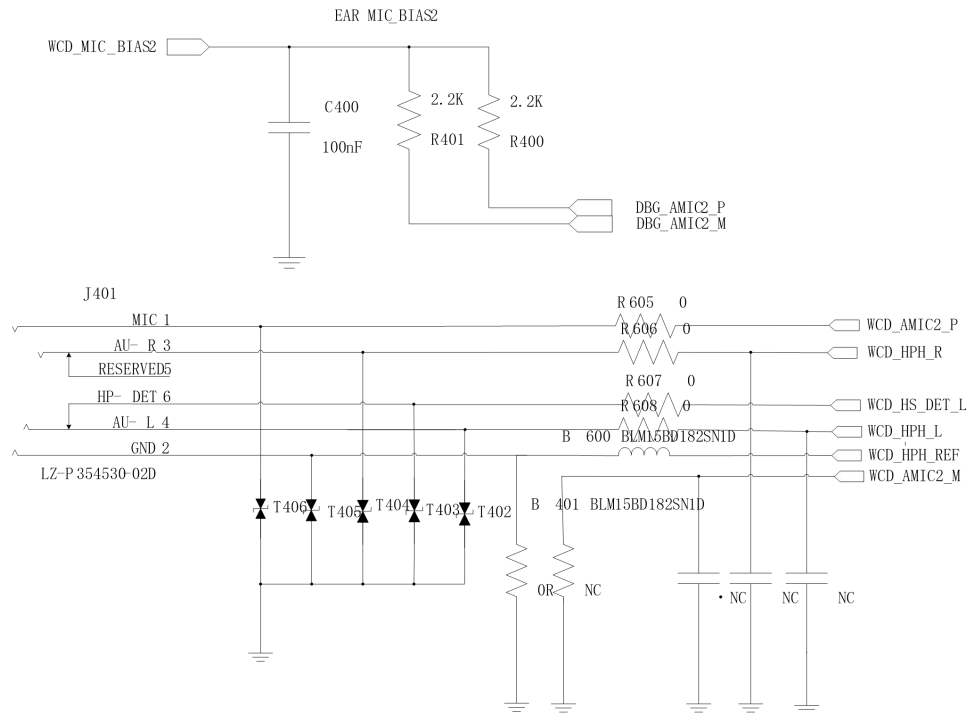

Fig4.19: Headphone interface circuit
1. The headset socket in Figure 4.19 is normally closed, if the user is using the normally open headphone socket, please modify the detection circuit according to the actual pin and modify the software accordingly.